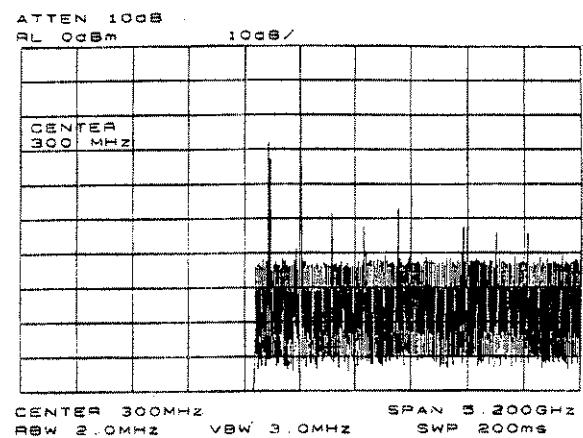

Figure 1-3. Center Frequency Set to 300 MHz
1. Set the center frequency. Press **FREQUENCY**. This activates the center frequency function, indicated by CENTER appearing in the active function block on the left side of the display (see Figure 1-3). To set the center frequency to 300 MHz, use the keys in the data section of the front panel and press 300 **(MHz)**. These data keys allow you to select the exact numeric value of the active function, which in this case is the center frequency. The step keys and knob also allow you to select function values.